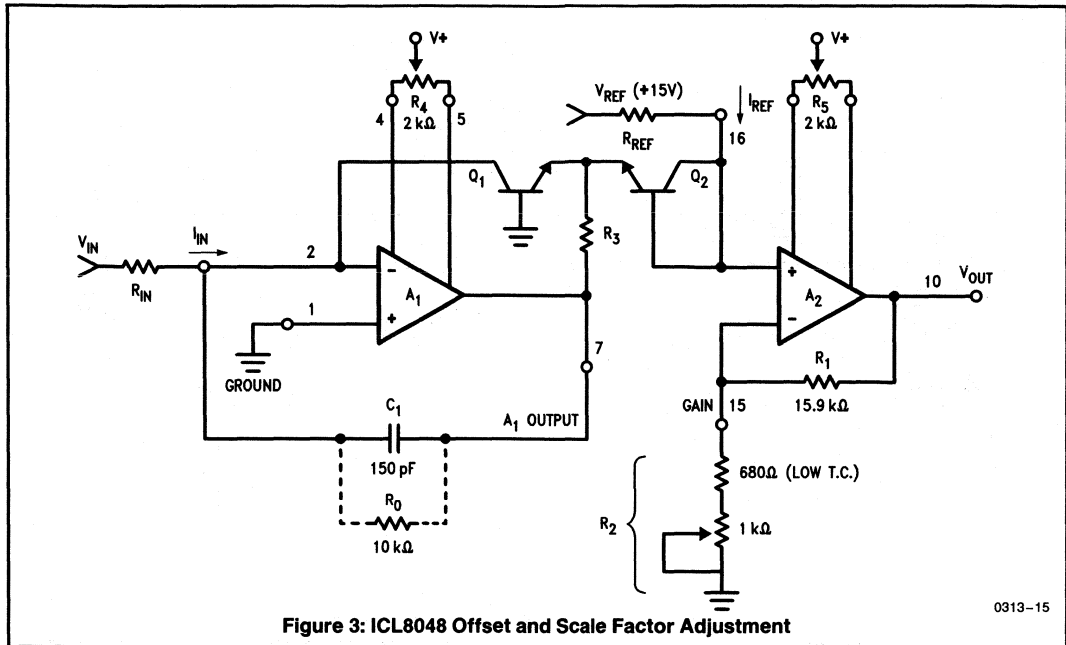
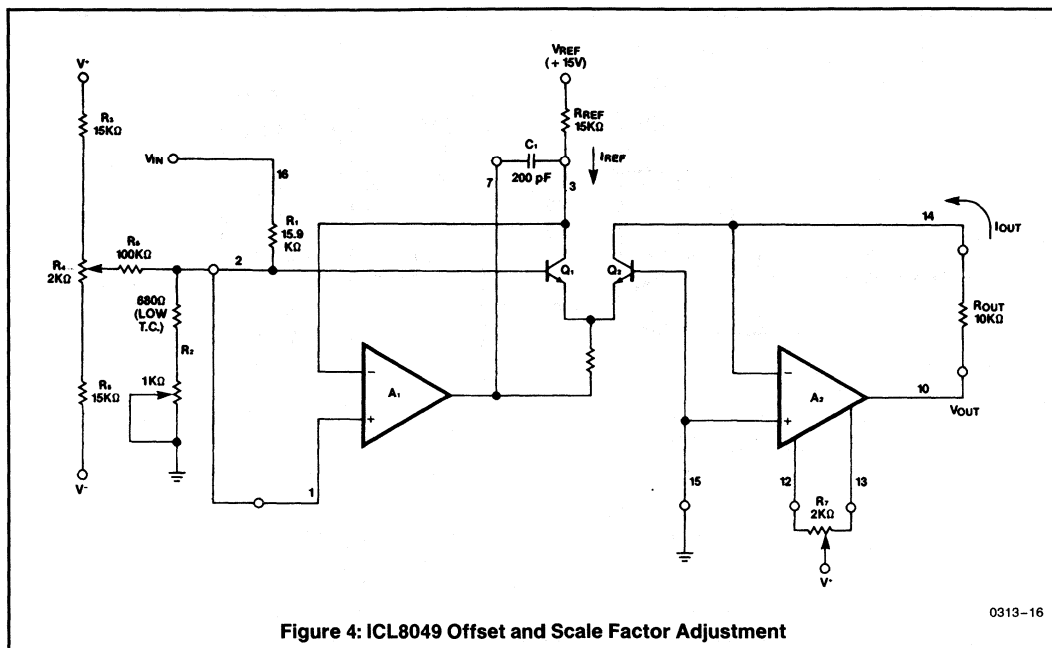

Figure 3: ICL8048 Offset and Scale Factor Adjustment
Figure 4: ICL8049 Offset and Scale Factor Adjustment
Referring to Figure 3, it is clear that the potential at the collector of Q_2 is equal to the ΔV_{BE} between Q_1 and Q_2 . The output voltage is ΔV_{BE} multiplied by the gain of A_2 :
A log amp, unlike an op-amp, cannot be offset adjusted by simply grounding the input. This is because the log of zero approaches minus infinity; reducing the input current to zero starves Q_1 of collector current and opens the feedback loop around A_1 . Instead, it is necessary to zero the offset voltage of A_1 and A_2 separately, and then to adjust the scale factor. Referring to Figure 3, this is done as follows:
The ICL8049 relies on the same logarithmic properties of the transistor as the ICL8048. The input voltage forces a specific ΔV_{BE} between Q_1 and Q_2 (Figure 4). This V_{BE} difference is converted into a difference of collector currents by the transistor pair. The equation governing the behavior of the transistor pair is derived from (2) on the previous page and is as follows:
As with the log amplifier, the antilog amplifier requires three adjustments. The first step is to null out the offset voltage of A_2 . This is accomplished by reverse biasing the base-emitter of Q_2 . A_2 then operates as a unity gain buffer with a grounded input. The second step forces $V_{IN} = 0$; the output is adjusted for $V_{OUT} = 10V$. This step essentially "anchors" one point on the transfer function. The third step applies a specific input and adjusts the output to the correct voltage. This sets the scale factor. Referring to Figure 4, the exact procedure for 1 decade/volt is as follows:
By adjusting R_2 (Figure 3 and Figure 4) the scale factor "K" in equation 9 and 10 can be varied. The effect of changing K is shown graphically in Figure 5 for the log amp, and Figure 6 for the antilog amp. The nominal value of R_2 required to give a specific value of K can be determined from equation 11. It should be remembered that R_1 has a $\pm 20\%$ tolerance in absolute value, so that allowance shall be made for adjusting the nominal value of R_2 by $\pm 20\%$.
Although the op-amps in both the ICL8048 and the ICL8049 are compensated for unity gain, some additional frequency compensation is required. This is because the log transistors in the feedback loop add to the loop gain. In the 8048, 150pF should be connected between Pins 2 and 7 (Figure 3). In the 8049, 200pF between Pins 3 and 7 is recommended (Figure 4).
In both the ICL8048 and the ICL8049 the input reference pin (I_{REF}) is not a true virtual ground. For the ICL8048, a fraction of the output voltage is seen on Pin 16 (Figure 3). This does not constitute an appreciable error provided V_{REF} is much greater than this voltage. A 10V or 15V reference satisfies this condition. For the ICL8049, a fraction of the input voltage appears on Pin 3 (Figure 4), placing a similar restraint on the value of V_{REF}.